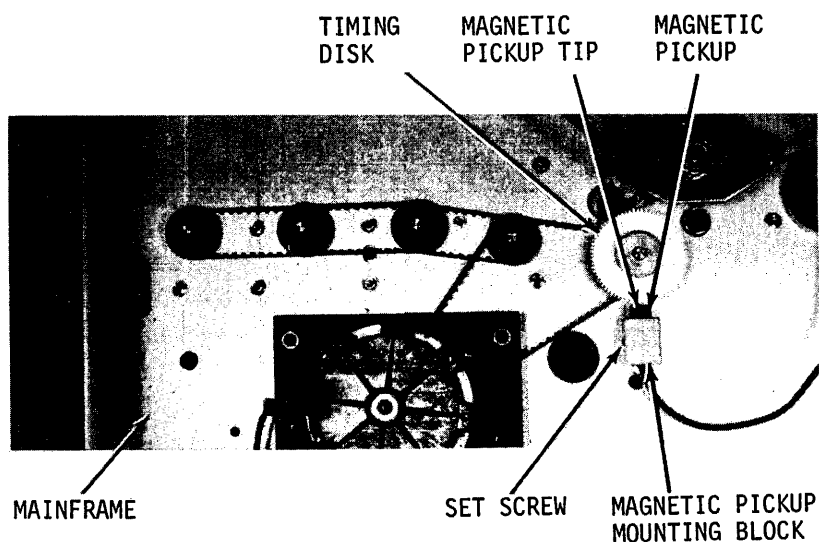

Figure 9-11. Magnetic Pickup Replacement
- e. Using a 1/16 Allen wrench, LOOSEN set screw in magnetic pickup mounting block, figure 9-11. Remove magnetic pickup from mounting block. Remove pickup and its cable from cabinet.